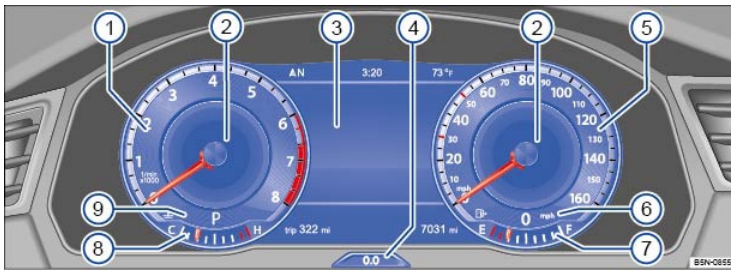

Fig. 10 Digital instrument cluster (Volkswagen Digital Cockpit) in the instrument panel.
Instrument explanations ⇒ Fig. 10 :
- ① **Tachometer** (thousands of revolutions per minute when the engine is running) ⇒ Tachometer.
- ② **Information profile displays.** The information shown depends on the selected information profile. The example above ⇒ Fig. 10 shows the Classic profile with no additional information shown.
- ③ **Displays** ⇒ Displays.
- ④ **Reset, set, and display button** ⇒ Displays, ⇒ Driving data \(Multi-Function Display\), ⇒ Setting the clock.
- ⑤ **Speedometer**
- ⑥ **Digital speed display.**
- ⑦ **Fuel gauge** ⇒ Indicator lights and fuel gauge, ⇒ Refueling.
- ⑧ **Engine coolant temperature gauge** ⇒ Warning light and engine coolant temperature gauge, ⇒ Engine coolant.
- ⑨ **Current selector lever position** ⇒ Automatic transmission.
You can choose between several information profiles in the **Views** menu in the Volkswagen Information System ⇒ Volkswagen Information System. The Volkswagen Digital Cockpit shows additional information in the center of the tachometer and the speedometer ⇒ Fig. 10 depending on the information profile you have selected.